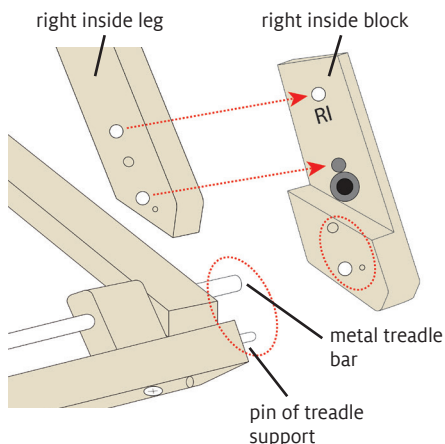

FIGURE 8: IDENTIFY HOLES ON INSIDE BLOCKS
14. Identify the height extender blocks for the inside legs, marked LI and RI. The top two holes of each block line up with holes at the bottom of the inside leg (Figure 8). The lowest holes in the block attach to the treadle assembly.
20. From inside the loom, insert a 1/4-20 x 1-3/4" carriage bolt through the second hole from the bottom of the inside leg, into the top hole of an inside height extender block, as shown in Figures 8 and 12. Place a scrap of wood over the carriage bolt and hammer the bolt into the leg with a mallet or hammer.